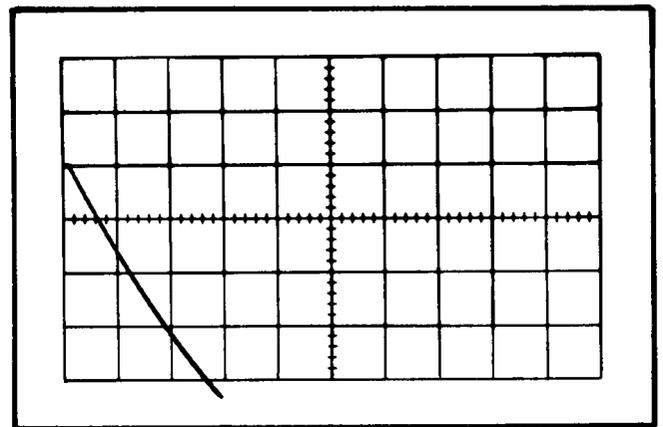

Fig. 5-19. Typical CRT display when checking DELAY-TIME MULTIPLIER dial incremental linearity.
f. Set the HORIZ DISPLAY switch to DELAYED SWEEP (B).
k. Return the HORIZ DISPLAY switch to DELAYED SWEEP (B) and repeat parts g through j until the difference between the markers at about 1.00 and 9.00 is exactly 8.00 dial divisions.
m. Rotate the DELAY-TIME MULTIPLIER dial slightly so a marker is displayed at the start of the sweep (see Fig. 5-19).